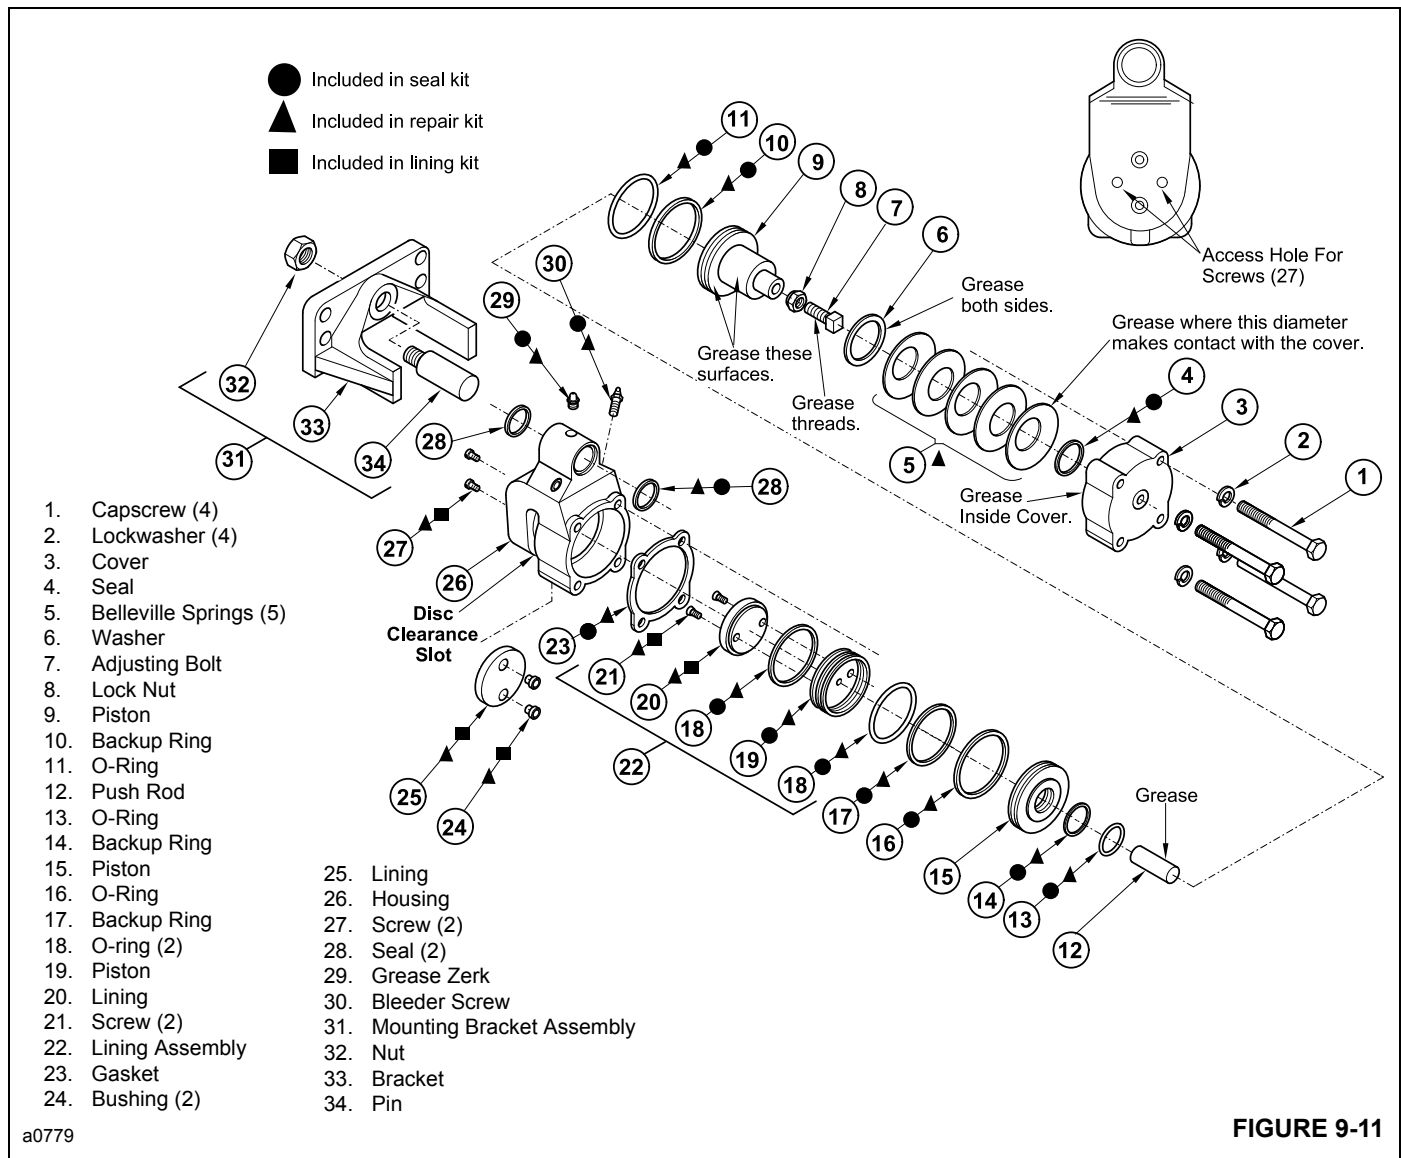

FIGURE 9-11
The lining kit is indicated in Figure 9-11 with a  symbol.
4. Loosen lock nut **8** Figure 9-11 and back off adjusting bolt **7**.
The parking brake has a repair kit available. It includes all the parts necessary to rebuild the brake. These parts are indicated in Figure 9-11 with a ▲ symbol.
4. Loosen lock nut 8 Figure 9-11 and back off adjusting bolt 7.
11. Remove capscrews **1** Figure 9-11, lockwashers **2**, cover **3** and gasket **23**. Using a thin blade screw driver, remove seal **4** from cover **3**.
NOTE: Coat the surfaces indicated Figure 9-11 with a Lithium Base, E.P. No. 2 bearing grease or equivalent.
19. Install new lining **25** Figure 9-11 in housing **26** using new bushings **24** and pan head screws **27**. Tighten the screws to 2.5 - 3.3 Nm (22-28 lb-in).
The parking brake has a seal kit available. It includes all the parts necessary to replace all the seals in the brake. These parts are indicated in Figure 9-11 with a  symbol.
10. Remove capscrews **1** Figure 9-11, lockwashers **2**, cover **3** and gasket **23**. Using a thin blade, remove seal **4** from cover **3**.
NOTE: Coat the surfaces Figure 9-11 with a Lithium Base, E.P. No. 2 bearing grease or equivalent.